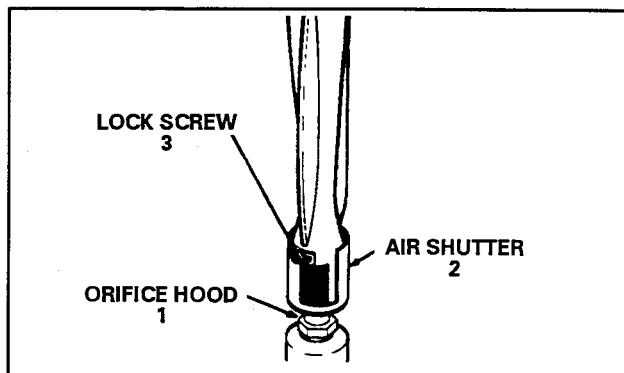

Figure 1-4
- a. Yellow flame on burner - open air shutter "2," *see figure 1-4.*
- b. Distinct blue flame but lifting - close air shutter "2," *see figure 1-4.*